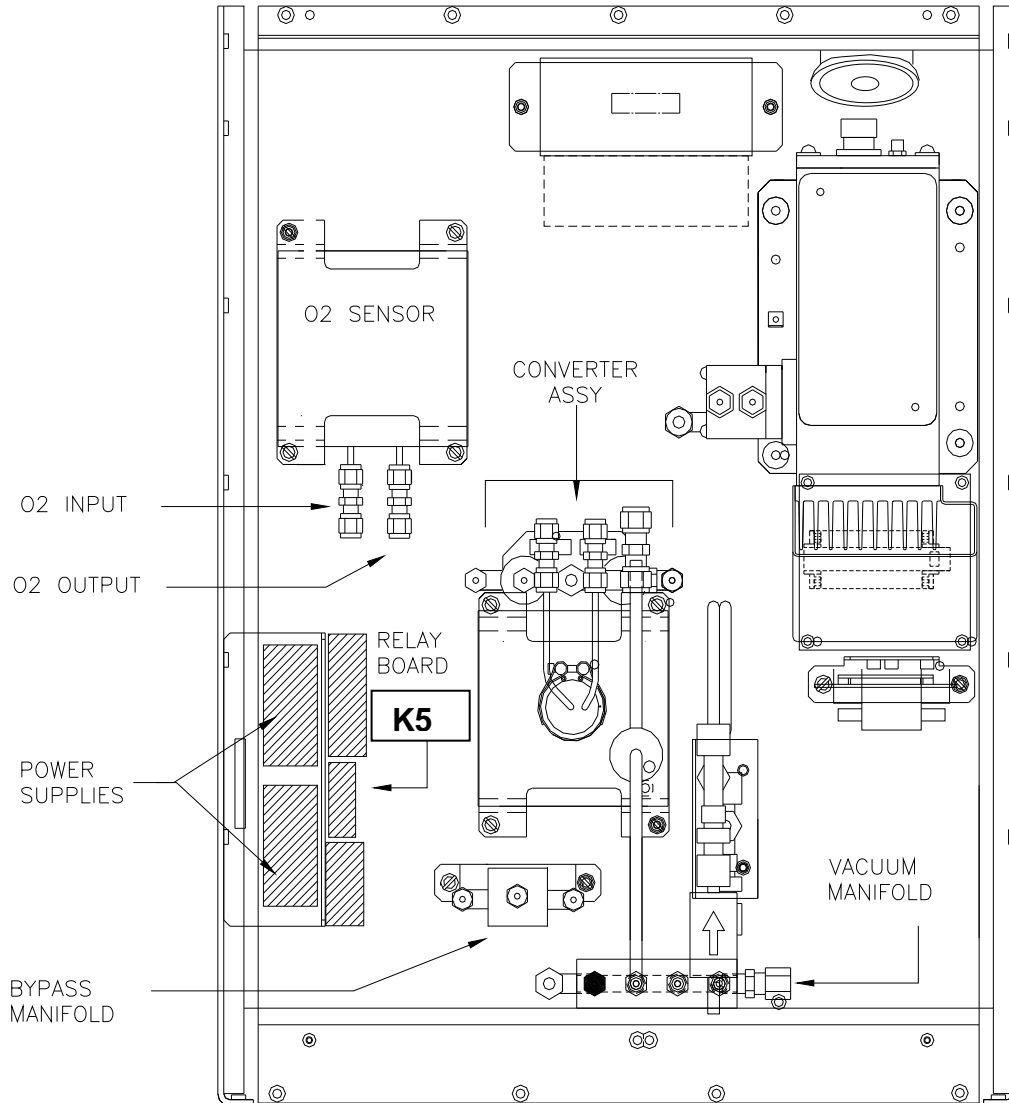

FIGURE 5. SHOWS THE O2 SENSOR INSTALLED AND CONNECTED. IN ADDITION, THIS FIGURE SHOWS THE INPUT AND OUTPUT FITTINGS OF THE O2 SENSOR.
5. Install the oxygen sensor assembly, see **figure 5** for sensor placement. Make the oxygen sensor electrical connections. Route the heater-thermistor harness through the back of the oxygen sensor, route the supply voltage harness through the front of the oxygen sensor.
11. Install the relay (provided) on relay board at location K5 see **figure 5** for location of relay board assembly. Install DOC (disc on chip, part number 043430100) on the cpu board.